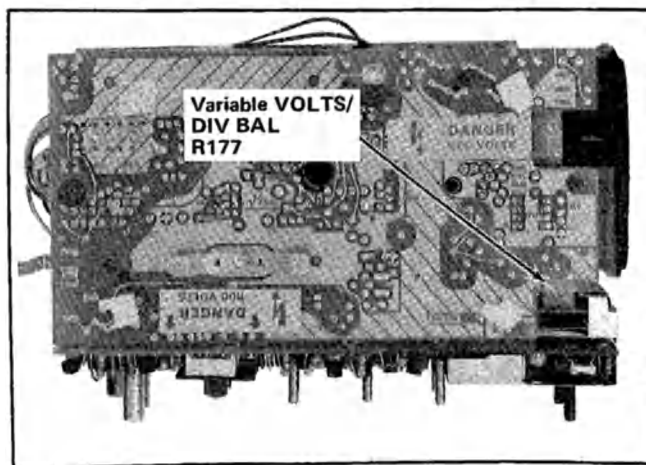

Fig. 5-5. Location of the VOLTS/DIV Var Bal adjustments.
- d. Adjust the VAR VOLTS/DIV BAL adjustment for a trace shift for no more than 0.1 division. See Fig. 5-5.